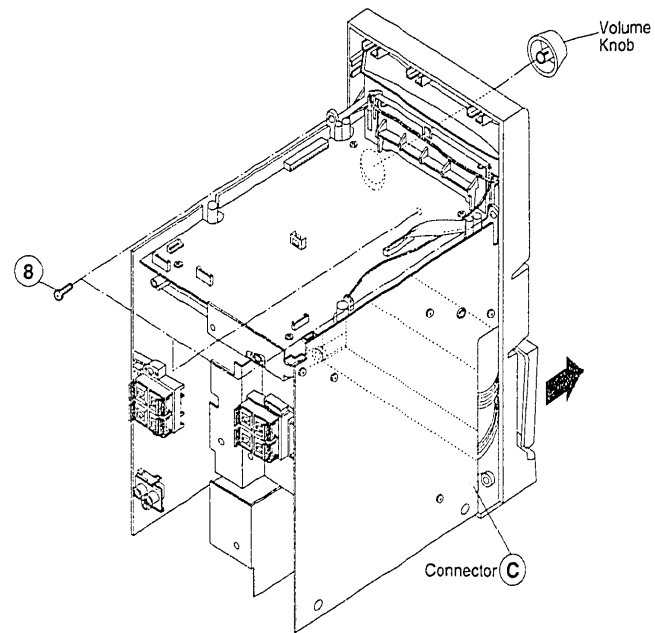
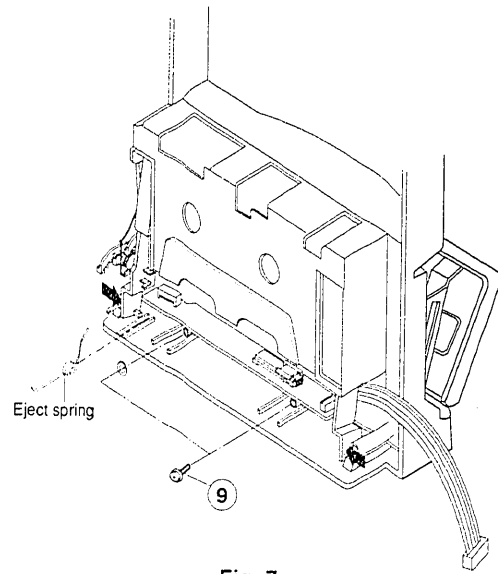

Fig. 6
Fig. 7
- (1) Remove 4 screws ⑥ from the transformer.
- (2) Remove 1 screw ⑦ from the battery compartment.
6. **Removal of Front Panel, Cassette Door and Mic Volume P.W.B (Fig. 6 & Fig. 7)**
- (1) Remove 3 screws ⑧ from the main chassis, then disconnect 1 connector ⑨.
- (2) Remove Volume knob.
- (3) Eject the cassette door at the open position and remove the front panel at the arrow direction.
- (4) Remove the eject spring and gently squeeze together the bottoms of the cassette door latches. When the latches are free of the pivot holes, remove the cassette door by pulling it forward. (Fig. 7)
- (5) Remove 2 screws ⑨ and 1 washer from the Front Panel for the removal of the Mic Volume P.W.B. (Fig. 7)